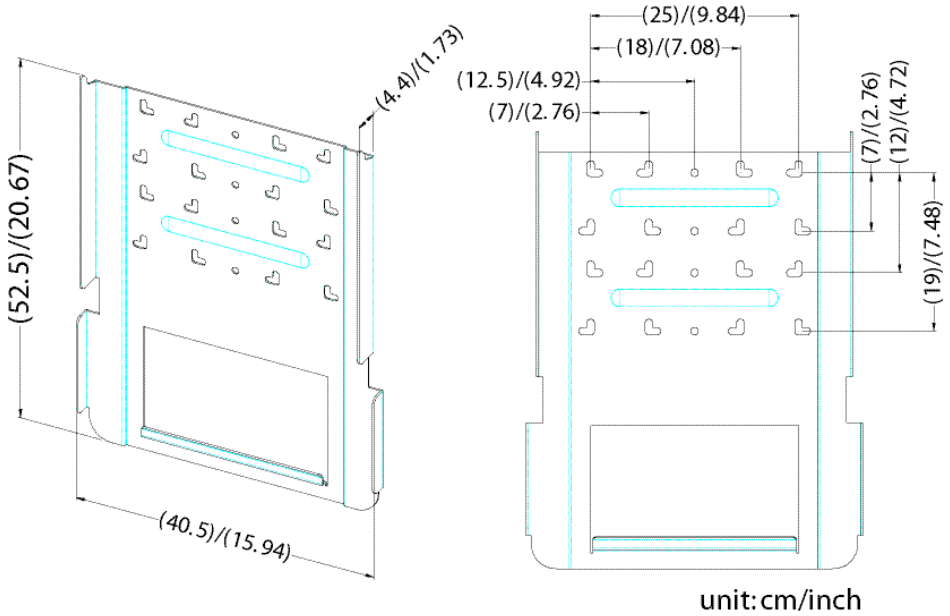

Fig 2.2.2 Inverter mounting bracket
2. Use the mounting bracket (figure 2.2.2) as a template to mark the location of the holes to be drilled in the wall. After drilling the holes, the mounting bracket is then held against the wall and fastened to the wall with anchors as shown in the figure 2.2.3. (A minimum of three (3) screws is required)